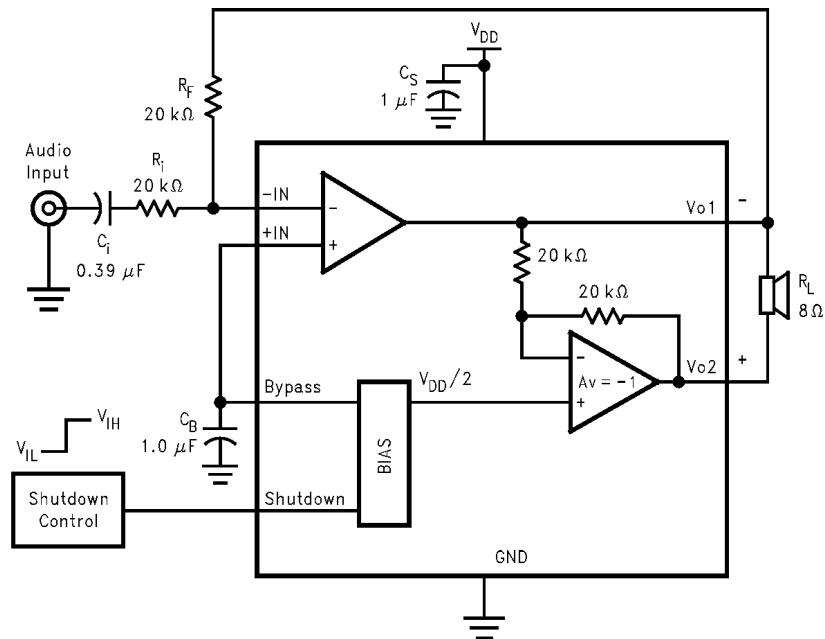

Figure 1. Typical Audio Amplifier Application Circuit
- (6) PSRR is a function of system gain. Specifications apply to the circuit in Figure 1 where $A_V = 2$. Higher system gains will reduce PSRR value by the amount of gain increase. A system gain of 10 represents a gain increase of 14dB. PSRR will be reduced by 14dB and applies to all operating voltages.
- PSRR is a function of system gain. Specifications apply to the circuit in Figure 1 where $A_V = 2$. Higher system gains will reduce PSRR value by the amount of gain increase. A system gain of 10 represents a gain increase of 14dB. PSRR will be reduced by 14dB and applies to all operating voltages.